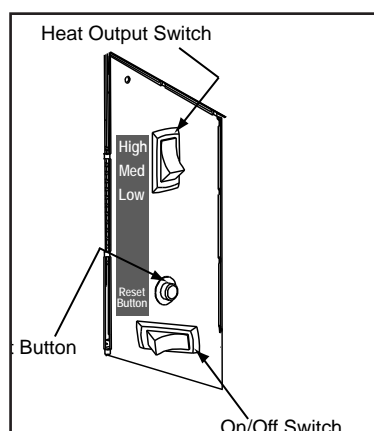
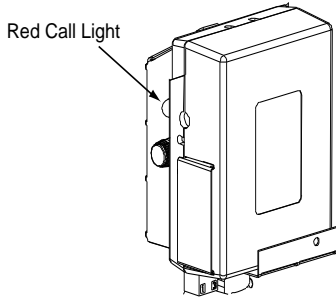

Figure 9.1
Figure 10.1
3. Locate the heat output control switch mounted on the back of the appliance in the upper right corner. **Figure 9.1.** Turn it to the "high" setting by pushing the top of the control switch in and then adjust the thermostat to its highest setting. Remove the right side panel and the red call light located to the left of the control box will be on. **Figure 10.1.** This indicates the thermostat is calling for heat.
- Occasionally the appliance may run out of fuel and shut itself down. When this happens, the red call light will be on. **Figure 10.1.** To restart it, fill the hopper and press the reset button. **See Figure 9.1 on page 9.** When you press the reset button the red call light will go out. Release the button and the light will come back on. You should see a fire shortly. If not, follow the instructions on **page 9** of “Starting Your First Fire”.